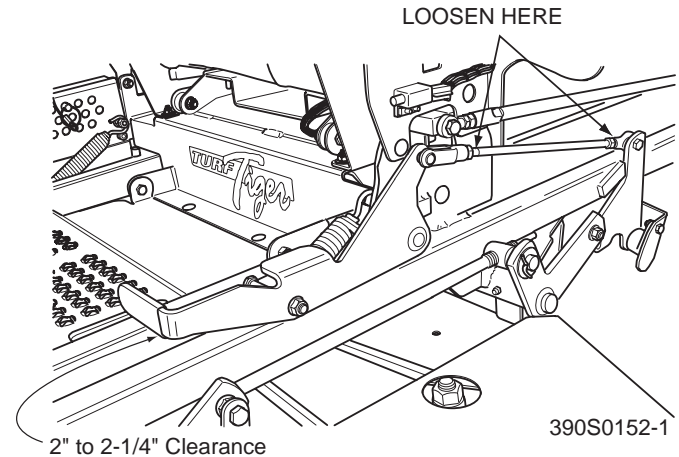

Figure 6-1. Brake Adjustment
2. With the brake lever in the disengaged position, check the distance between the top of the frame tube and the bottom of the brake handle. The distance should be 2" to 2-1/4". See Figure 6-1.
3. If the distance is not at the specified measurement, adjust by loosening the jam nuts at both ends of the brake control rod and turning the rod until the proper distance is achieved. Tighten the jam nuts. See Figure 6-1.